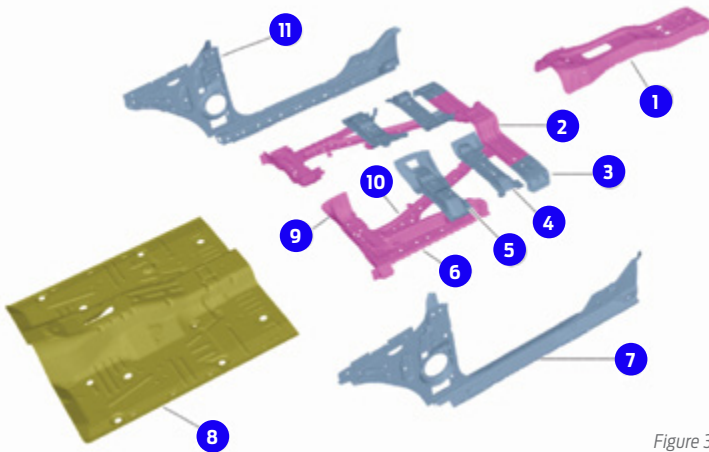

Figure 3
Front Floor (Figure 3)
6. Apply metal bonding adhesive to both inner side panels and clamp into proper position utilizing the 6.5 mm drill bit to prepare additional blind rivet guide holes, and then install the blind rivets. (Figure 3)